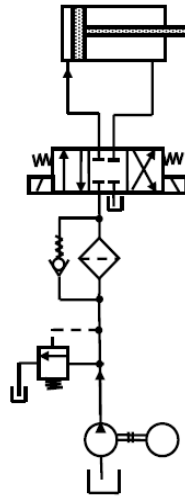

Fig.2.2 - Pressure filter
- **Pressure line filters (high-pressure filters):** These are placed immediately after the pump to protect valves and actuators and can be a finer and smaller mesh (Fig. 2.2). They should be able to withstand the full system pressure. Most filters are pressure line filters.